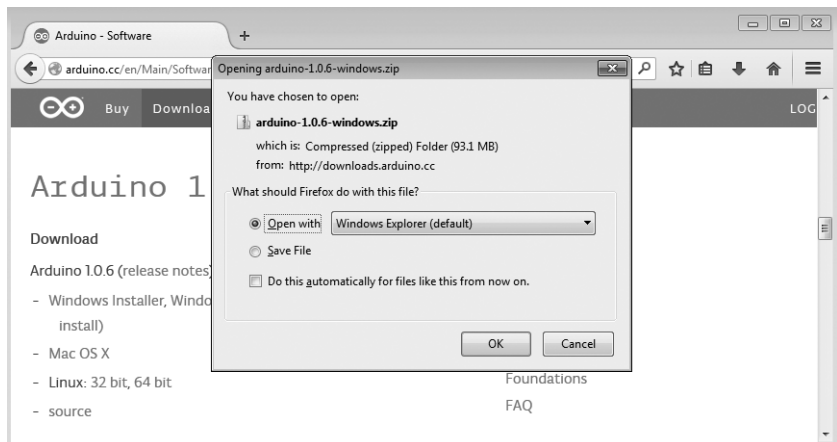
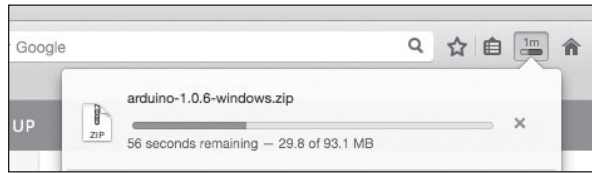

Figure 1-15: Downloading the file
Figure 1-16: Firefox shows the progress of your download.
2. Click the **Windows** link, and the dialog shown in Figure 1-15 will appear. Select **Open with Windows Explorer**, and then click **OK**. The file will start to download, as shown in Figure 1-16.